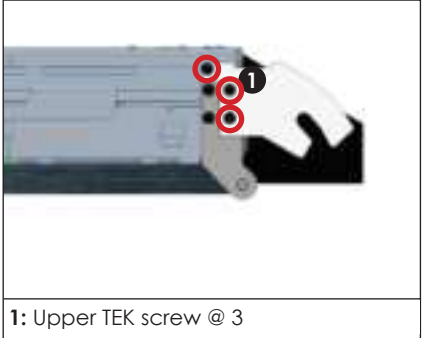
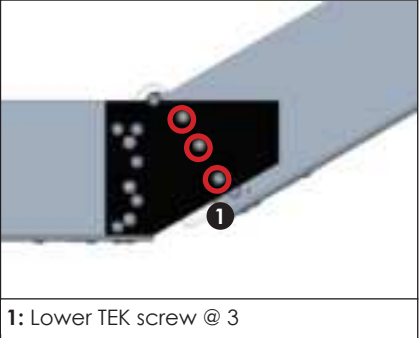

Figure 25: Install Upper TEK Screws
Figure 26: Install Lower TEK Screws
9. Install TEK screws (#HC-1530) through the upper and lower wing brackets into the vertical perimeter of the wing to keep the wing from rotating. Refer to **Figure 25** and **Figure 26**.